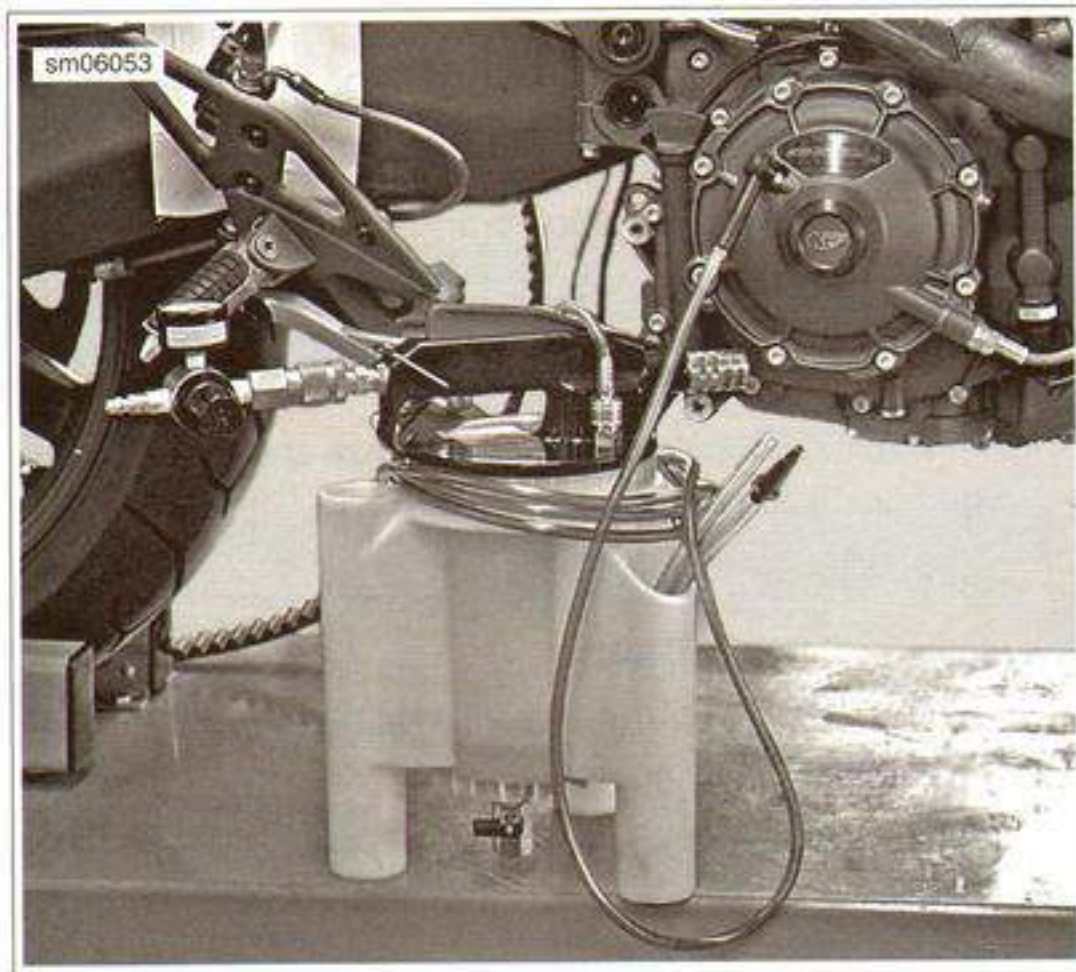

Figure 3-31. Drain the Clutch Fluid
9. See Figure 3-31. Remove the clutch fluid reservoir cover and use a vacuum to drain the clutch fluid through the bleeder valve.